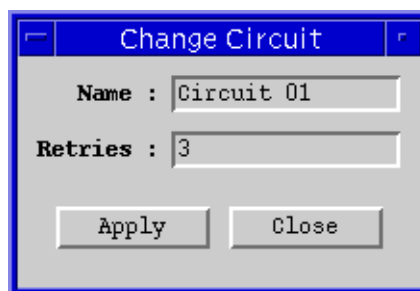

Figure 5-3. The Change Circuit Window
2. If you want to change a circuit's name or the number of retries, highlight the appropriate circuit and click **Change Name/Retries**. The Change Circuit window, Figure 5-3, will appear.